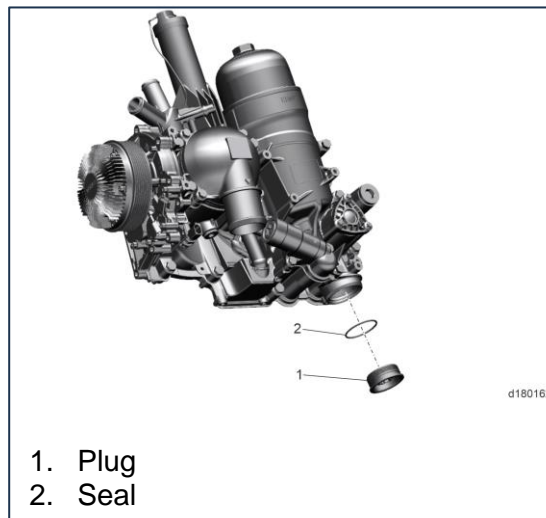

Fig. 1, Removal of Oil Coolant Module Plug
8. Using oil module plug socket DSN470E19014, remove the bottom plug from the oil coolant module housing and allow oil to drain into the oil-capturing device. See Fig. 1.